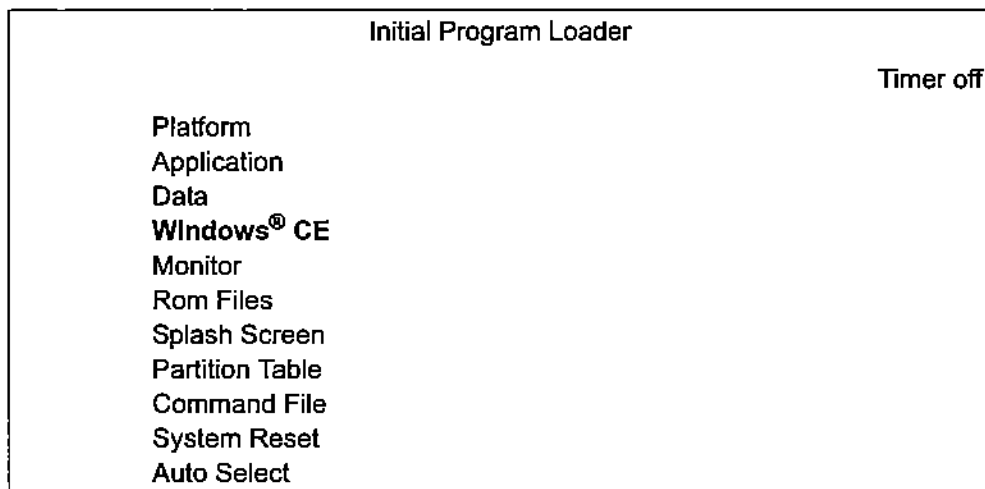

Figure F-2. IPL Mode Menu
3. **Select OS Partition Upgrade** - see Figure F-2. When a partition is used it refers to any download component in the Mk2000 (such as OS). Use the **A** button (Down) to scroll down to the *Windows® CE* option and select the option using the **C** button (Select/Action).